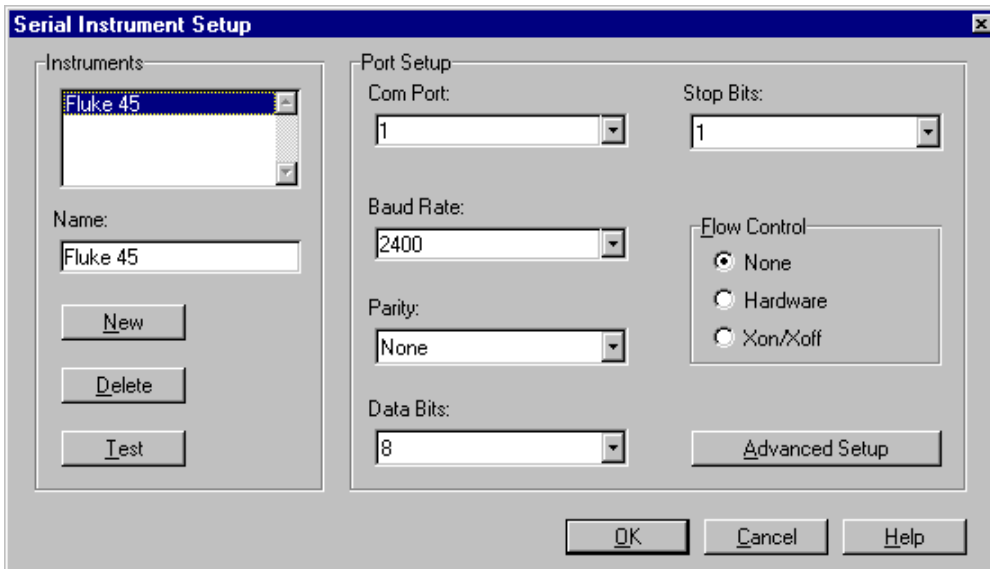

Figure 2-1. Serial Instrument Setup Dialog Box
| Figure 2-1. | Serial Instrument Setup Dialog Box | 2-2 |
1. Select **Serial»Instruments** to show the Serial Instrument Setup dialog box, shown in Figure 2-1.
The Serial Instrument Set up for the Fluke 45 Multimeter should appear as shown in Figure 2-1.